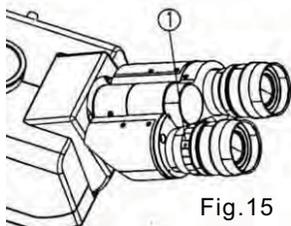

Fig.15
After the image of the right eyepiece is clear, observe the left eyepiece with the left eye. If it is unclear, clear, rotate the diopter adjusting ring ① until the image is clear. (See Fig.15).